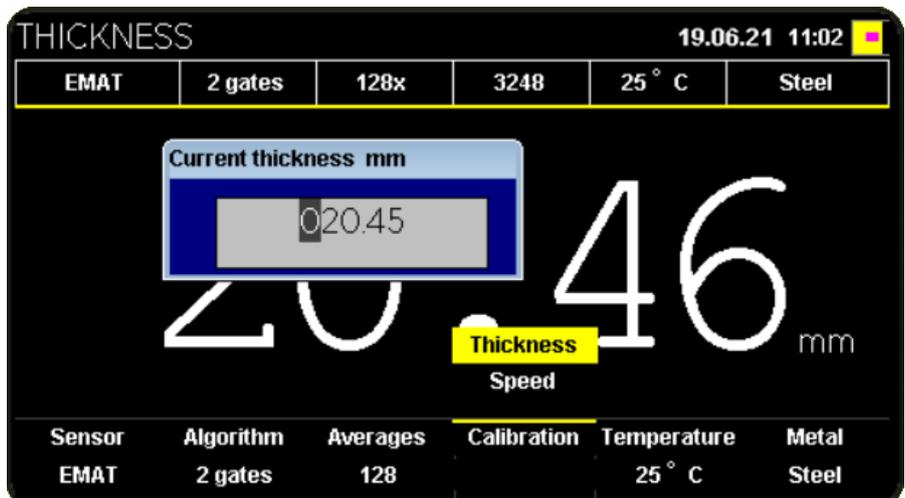

Figure 2.5 – Device calibration methods
2.2.3 The Device automatically starts calibration of the PE transducer using the calibration sample (Figure 2.5) if the PE transducer is selected (see paragraph 2.5.3.1).
2.5.1.3 Calibration of the transducers is performed in the following ways (Figure 2.5):
2.5.2.4 In the window that opens (Figure 2.5), set the value of the known thickness or acoustic speed in the test object using the , ,  and  buttons, then press the  button.
2.5.3.5 In the window that opens (Figure 2.5), set the value of the known thickness or acoustic speed in the test object using the , ,  and  buttons, then press the  button.